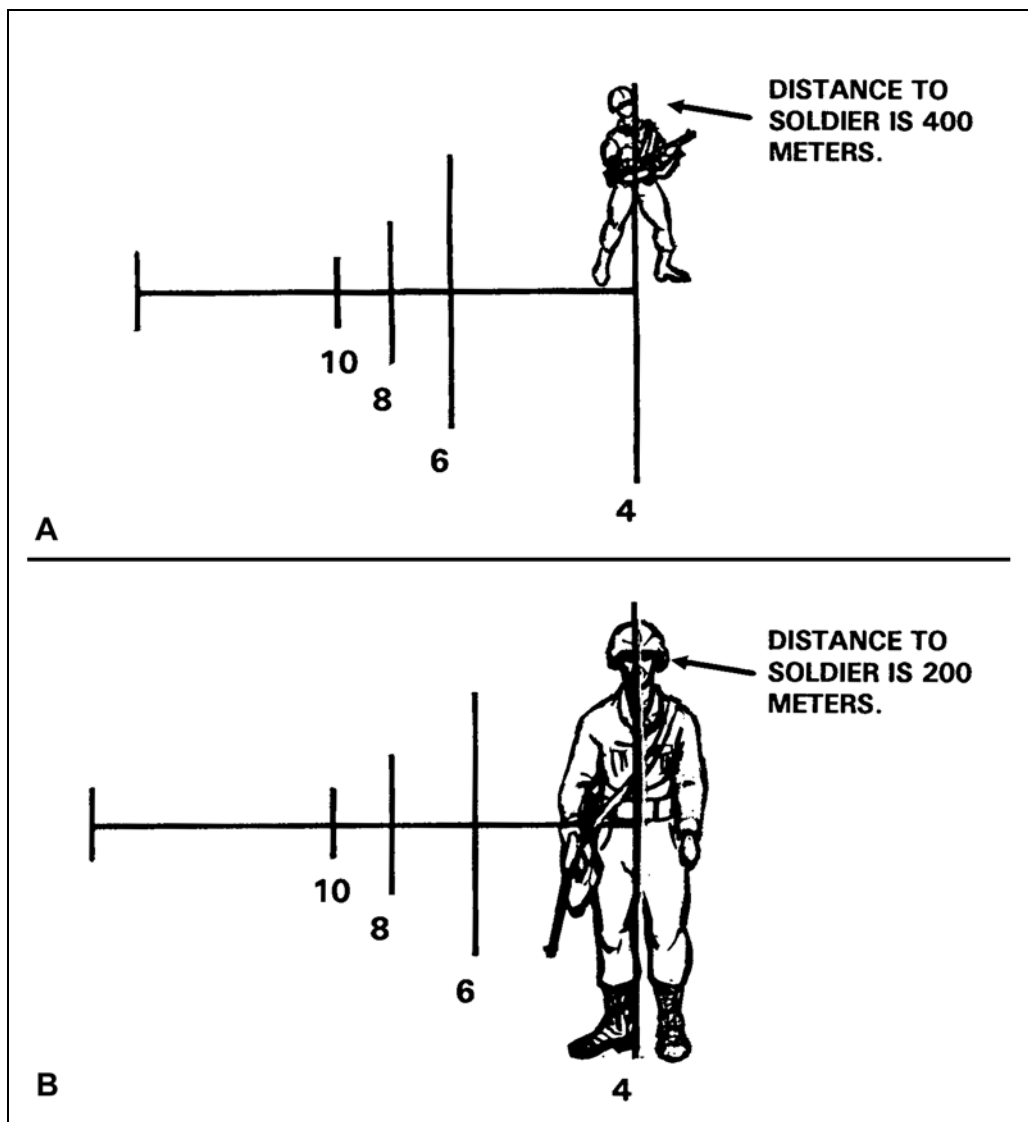

Figure 6-5. Range estimation using the AN/PVS-4 nightsight.
(1) Look through the reticle, place the base of the target (or the soldier's feet) on the horizontal line, and try to match the target's height to one of the vertical lines. The number under the line is the distance to the target in hundreds of meters. (For example, the distance to the soldier shown in A, Figure 6-5 on page 6-6 is 400 meters.)
(2) If the soldier is too tall to match to the top half of a vertical line, then match his height to a whole vertical line. Halve the number under the line to obtain the distance to him in hundreds of meters. (For example, the distance to the soldier shown in B, Figure 6-5 on page 6-6 is 200 meters.)